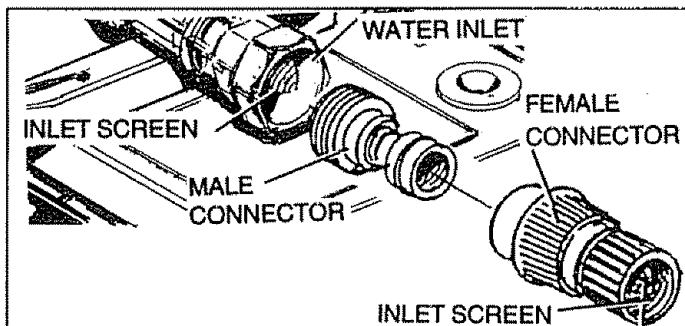

FIG. 5
- Included with this unit is a Quick-Connect fitting you attach to Water Inlet. The quick-connect includes two parts — a Male Connector factory-installed on water inlet and a Female Connector (Fig. 5). Remove male connector to inspect Intake Supply Screen in water inlet for cleanliness and inspect Inlet Screen on female